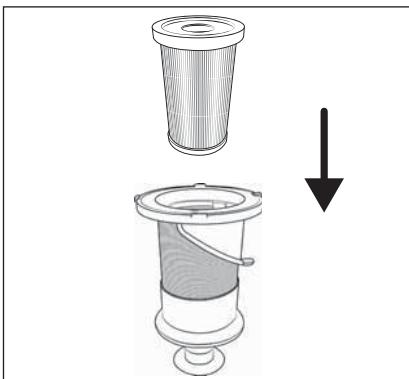

Fig. 27
- Do not turn the stainless steel filter ⑥ while inserting it into the dirt container ⑦. Pay attention to the two markings on the stainless steel filter ⑥ and on the dirt container ⑦ to insert the stainless steel filter ⑥ correctly.
- 7) Insert the EPA filter ⑤ into the stainless steel filter ⑥ (see Fig. 27).